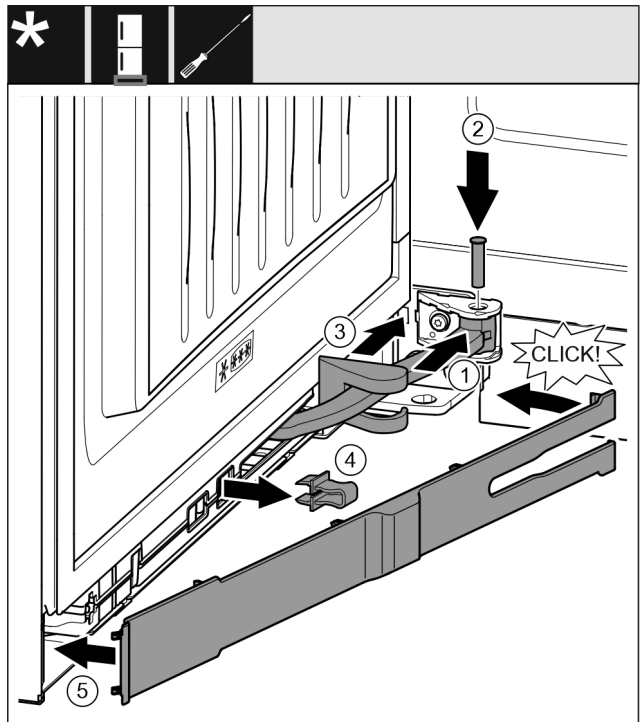

Fig. 50
- ▶ Turn the joint Fig. 50 (1) in the attachment.
- ▶ Use a screwdriver to insert the bolt *Fig. 50 (2)* into the attachment and the joint. Ensure that the latching cam is in the groove properly.
- ▶ Push the swap bearing block cover *Fig. 50 (3)* along the joint and use the attachment to fit it.
- ▶ Remove the safeguard *Fig. 50 (4)*.
- ▶ Place the trim *Fig. 50 (5)* on the handle side and swing in.